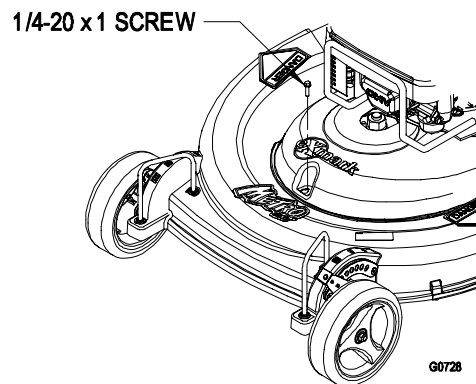

FIGURE 19
- c) Remove the screw that secures the belt cover to the lawn mower housing (Figure 19).